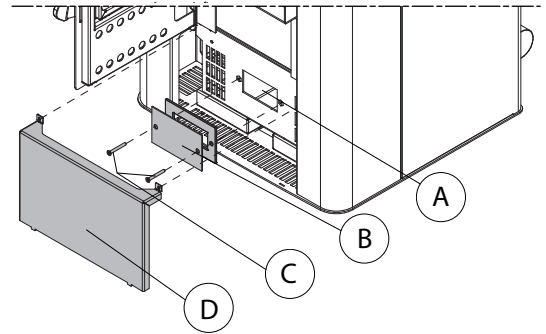
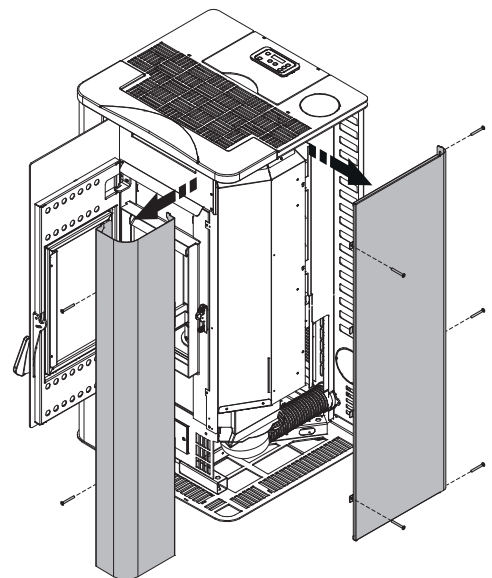
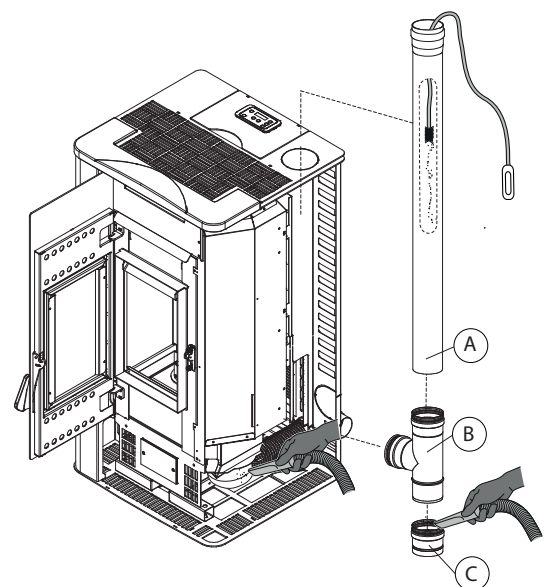

Fig. 6.1.2
Fig. 6.1.3a
Fig. 6.1.3b
- For easy access to the fan (A), just remove the lid (D), the cap (B) and relevant gasket, then turn the two screws (C) (Fig. 6.1.2).
Remove the lid (D) (Fig. 6.1.2). Remove the screws securing the left side (Fig. 6.1.3a). Dismantle the flue gas pipe (A), the T-fitting (B) and cap (C) (Fig. 6.1.3b). Use a flexible brush to clean the flue gas pipe. Finish cleaning by vacuuming any ash residue in the cap and fan using a suitable ash vacuum. Upon completion, refit the components of the flue gas evacuation duct and the side panel.